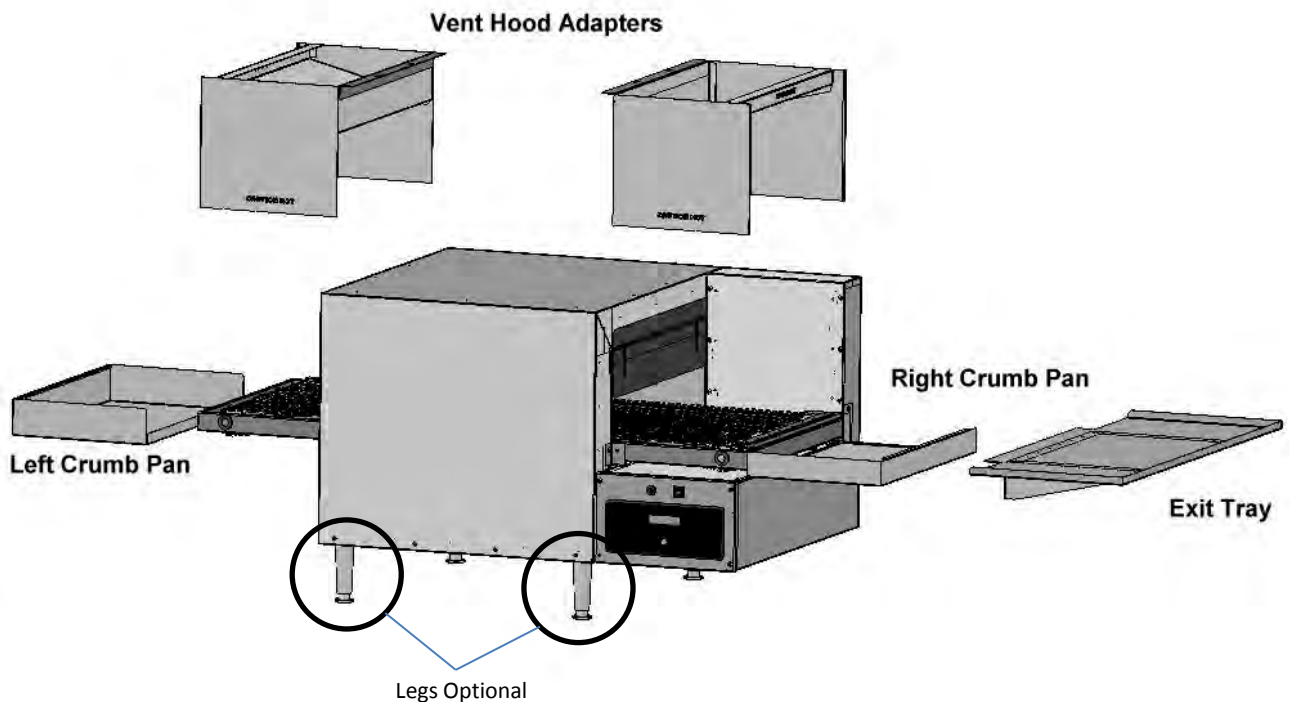

Fig 1
- 3) If optional legs purchased, attach four (4) legs to the bottom of the unit and tighten by turning clockwise.
- 5) Install the crumb pans, exit trays and other accessories. (see fig 1)